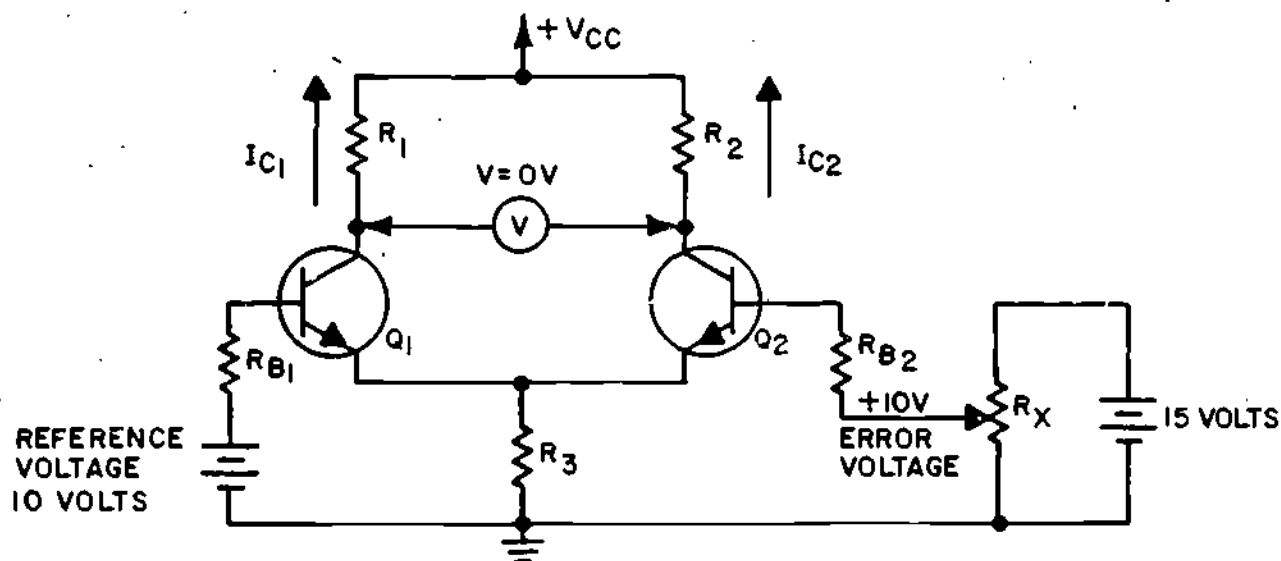

FIGURE 18
- (26.) The schematic shown in Figure 18 is a voltage comparator circuit that is part of a shunt detected series voltage regulator.
Notice that identical transistors and collector load resistors are used with a common emitter resistor in order to form the balanced circuit. The circuit shown is often called a differential amplifier, since it amplifies the difference between the input signals. Look at Q1 and note that a reference voltage of 10 volts is applied to the base of the transistor. An identical potential is applied to the base of Q2. This voltage is the result of using the potentiometer R_X to select a value which is equal to the reference voltage. The error signal equals the difference between the reference and error voltage. A voltmeter connected across the two transistor collectors, as shown in Figure 18, results in a voltage reading of zero volts. This means that